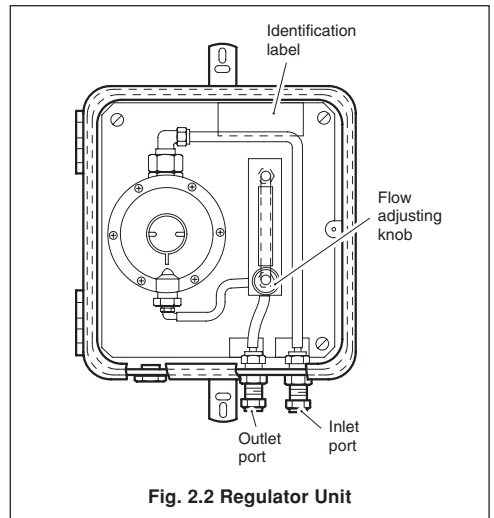

Fig. 2.2 Regulator Unit
4.2 003000241 Regulator Unit – Fig. 2.2
Turn on the main air supply. Open the case lid and adjust the flow adjusting knob (see Fig. 2.2) to achieve the required air flow rate. Turning the knob clockwise reduces the air flow rate.